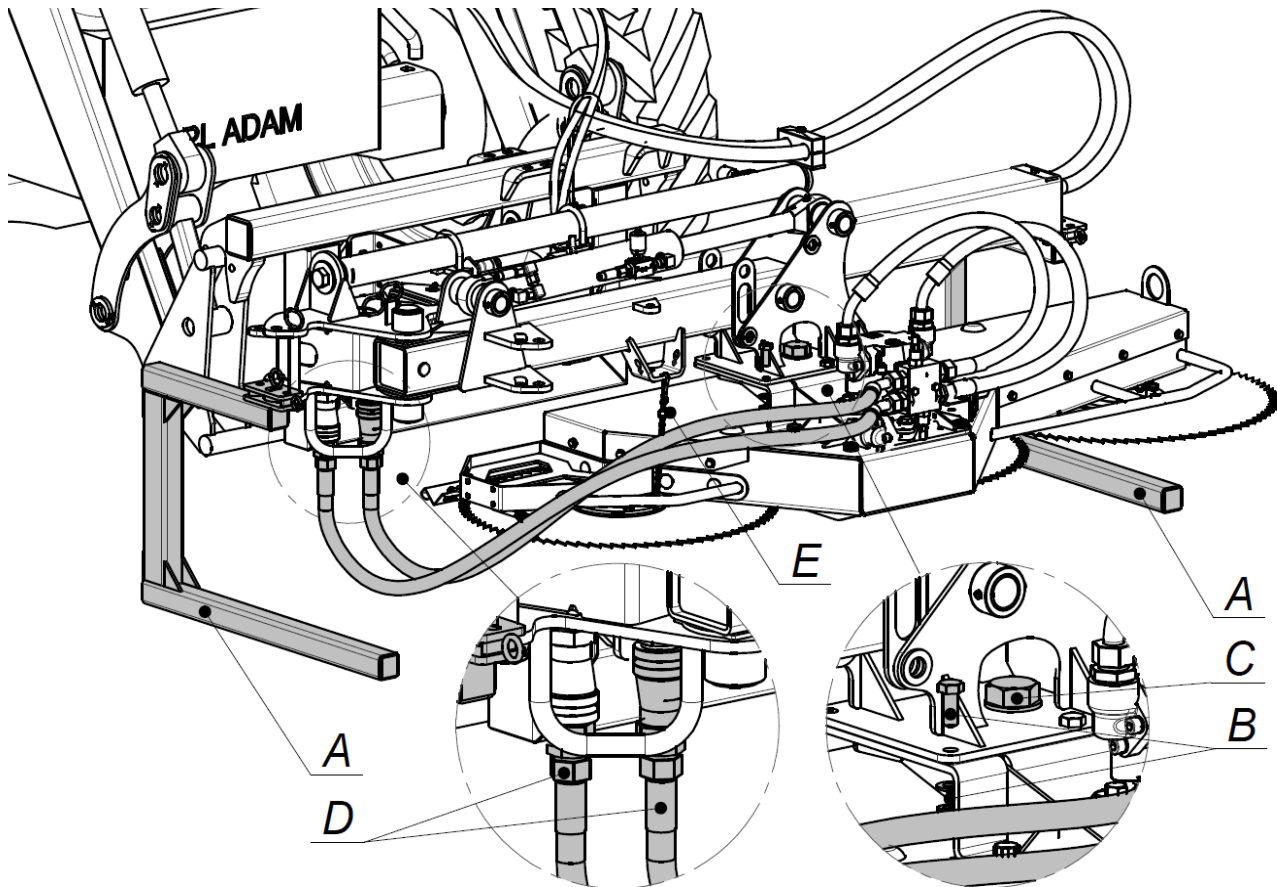

Fig. 9. Attaching work head to the carrier
- using six M14 bolt connections (B) joint the two plates together. Tighten the bolts with torque corresponding to their property classes (Tab. 2). Central M30 bolt connection (C) is not required, however it facilitates the head rotation by 180°, if needed;
- connect hydraulic connectors (D) and secure the hoses by clipping them with chain (E) (Fig. 9).
- ❑ remove support feet (A) (**Fig. 9**);